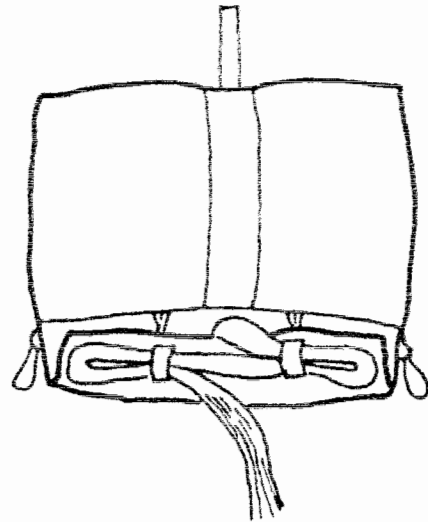

FIG. 9
4) As shown in FIG. 8, place the reserve free bag under the "V" of the canopy, and push each half of the canopy up into its respective half of the bag. Be sure the slider is still up against the canopy as far as it will go. After the "ears" of the bag are stuffed, push the remainder of the canopy with the slider into the space at the bottom of the bag, and lock the bag with two stows of the suspension lines as shown in FIG. 9. Be sure that each stow forms a bight 2" to 3" long beyond the elastic.
8) At the front of the mouth of the bag are two loops on which rubber bands should be installed. These are the "Locking Stows". Push each rubber band thru its respective grommet in the bag's closing flap, and close the bag by making a stow in each elastic with the suspension lines as shown in FIG. 9. *Be sure that these two elastic bands are always in good condition !!* If the locking stows break during deployment, an out-of-sequence condition may occur which could result in a malfunction.